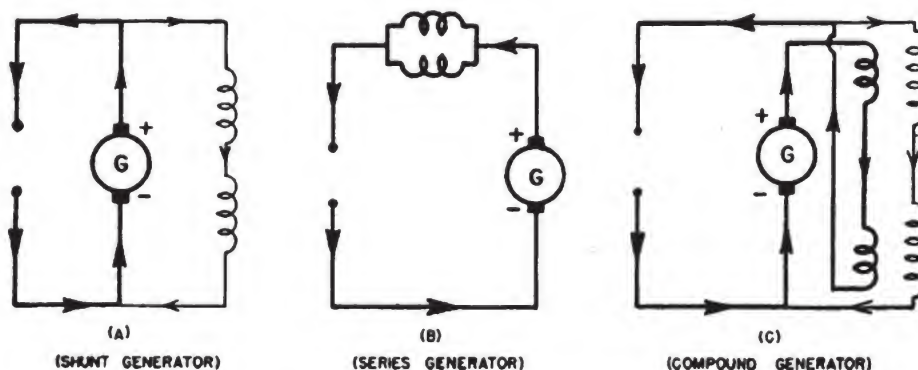

Figure 137.—Types of generators.
In (A) of figure 137, you see the connections used for the SHUNT generator. The field windings are in series. But the entire field is parallel or shunted across the armature circuit. The diagram indicates the paths taken by the field and armature currents. This type of generator is used in Naval aircraft almost exclusively.
In (B) of figure 137, you see the connections used in the SERIES generator. The field windings
The COMPOUND generator in (C) of figure 137 uses both series and shunt windings. In the case of the shunt generator, the terminal voltage of the generator drops when the load increases, because the increase in current causes an increase in the IR drop inside the armature. The compound